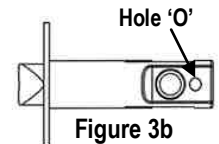

Figure 3b
- The guide will locate in Hole 'O' of the Latch to help maintain positioning. (Figure 3b)